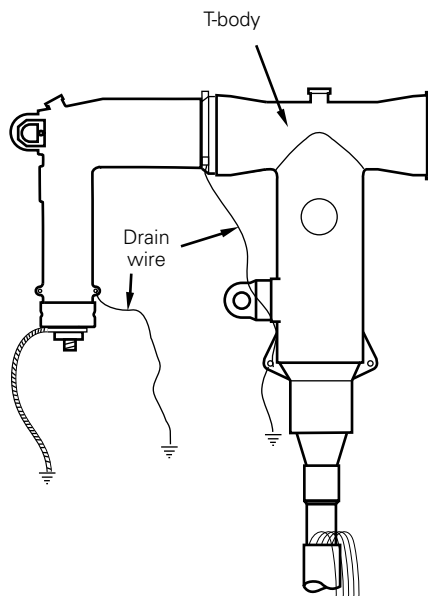

Figure 30. Installation of the drain wires.
- Connect one drain wire tab of the BLRTP and T-body with an uninsulated drain wire to a common ground point. Refer to Figure 30.